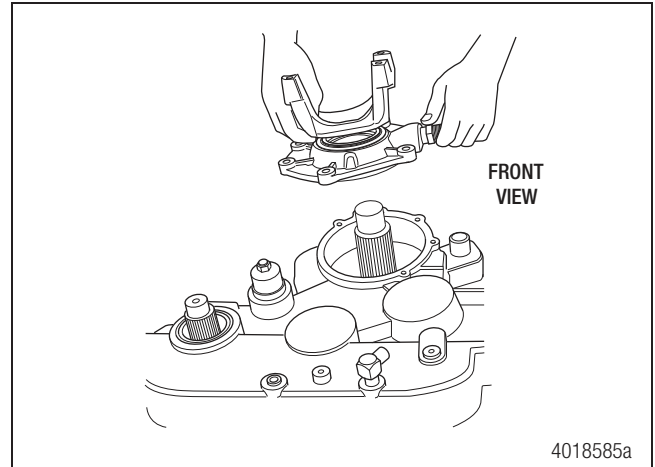

Figure 5.17
8. With the front input yoke still installed, remove the yoke nut, yoke, and front input bearing cage from the assembly. Figure 5.17.